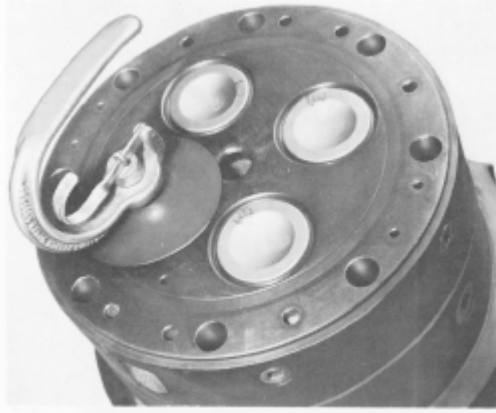

Fig. 2-22 - Testing Valve Seat Seal
3. Apply a light film of oil to the concave surface of the tester vacuum cup and attach tester to cylinder head with handle in six o'clock position, and covering one valve, Fig. 2-22.